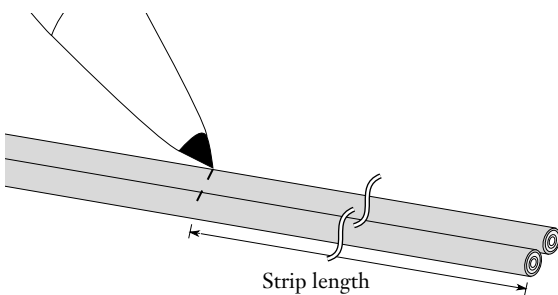

Figure 11
**5.1** Measure and mark the required strip length on the jackets of the two 2.9 mm subunits (Figure 11).